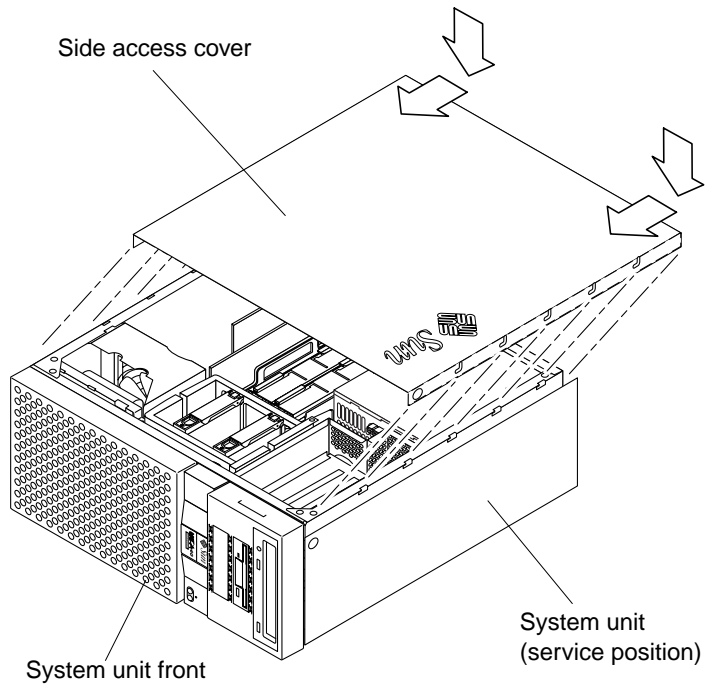

FIGURE 7-4 Replacing the Side Access Cover
1. Position the side access cover (FIGURE 7-4).